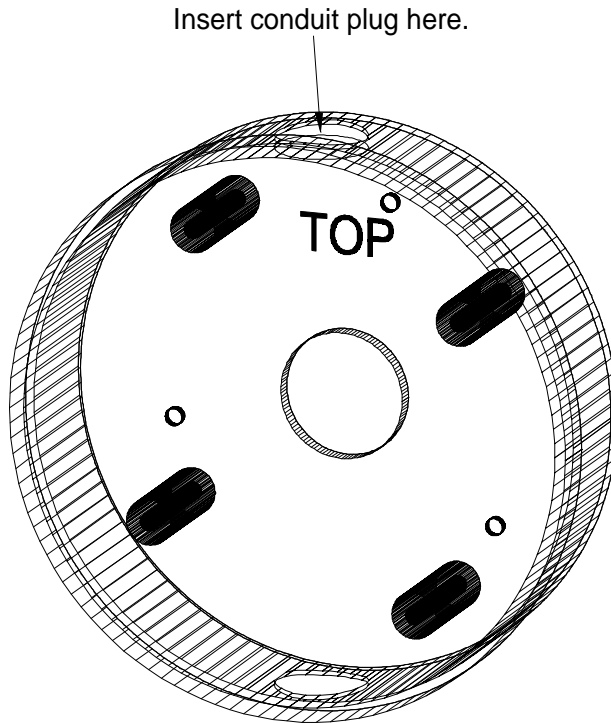

Figure 10 Horn Back Box
6. The weatherproof back box has two threaded conduit holes. Screw the provided conduit plug into the hole near the word "TOP" inside the weatherproof back box (figure 10).